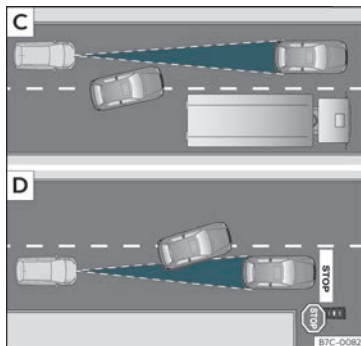

Fig. 163 [C] Vehicle changing lanes. [D] One vehicle turning and another stationary.
- Vehicles that move into your lane, a short distance from your vehicle >>> **Fig. 163** [C].
The ACC may not react to stationary vehicles. If, for example, a vehicle detected by the ACC turns or moves over and there is a stationary vehicle in front of it, the ACC will not react to the second vehicle»» **Fig. 163** .